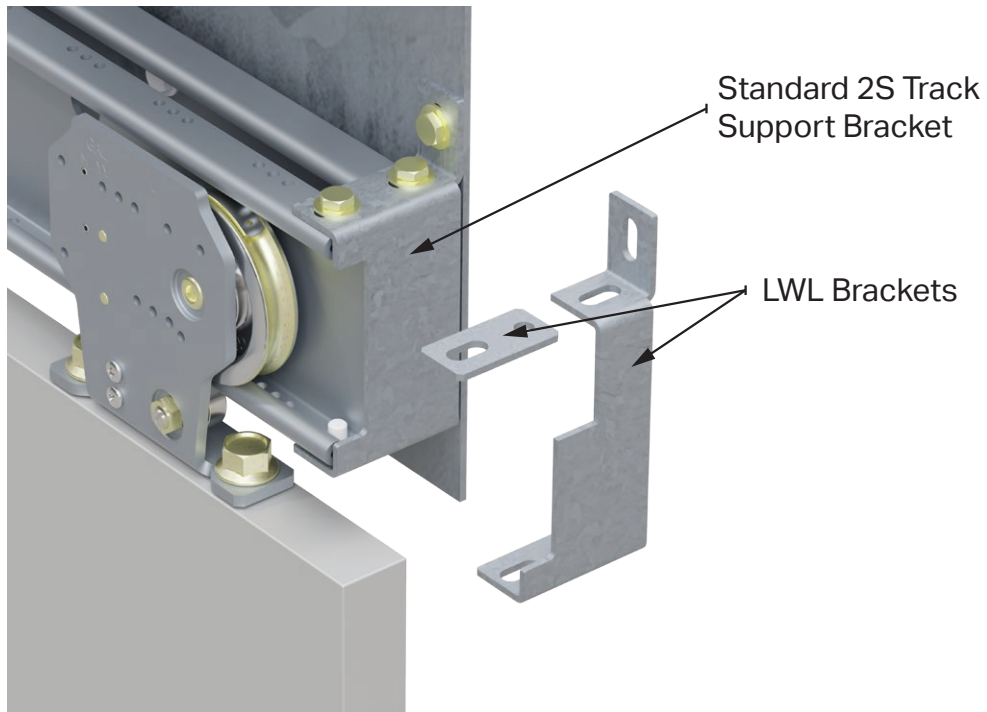

Figure 3: 2S Track Support Bracket Replacement
3. If installing a 2S or 3S side-opening interlock, the standard track support bracket on the daylight end of the track must be replaced with the LWL bracket, as shown in **Figures 3, 4, and 5**.